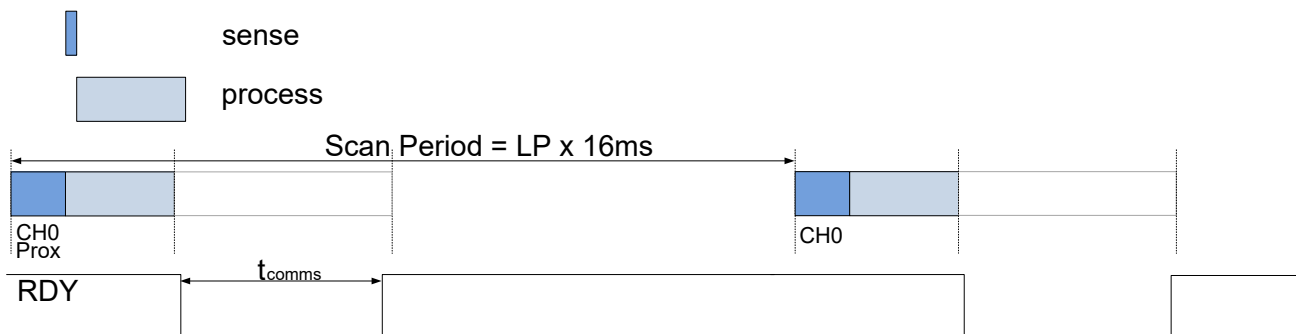

Figure 5.2 IQS360A Charge Cycle Timing in Low Power Mode.
NOTE: While in any power mode the device will zoom to Boost Power (BP) mode whenever the condition $(CS - LTA)^1 > \text{PROX_TH}$ or TOUCH_TH holds, indicating a possible proximity or touch event. This improves the response time. The device will remain in BP for t_{ZOOM} (4 seconds) after the last proximity event on CH0 is cleared and then return to the selected power mode. The zoom function allows reliable detection of events with count values being produced at the BP rate. The LP charge cycle timing is illustrated in **Figure 5.2**. Bit 3 in Register 0x01, byte 0, will indicate if low power is active (bit 3), or the device is zoomed in (bit 0).
Adjusting the charge transfer speed will change the charge cycle duration (t_{SENSE}) as shown in **Figure 5.2**.